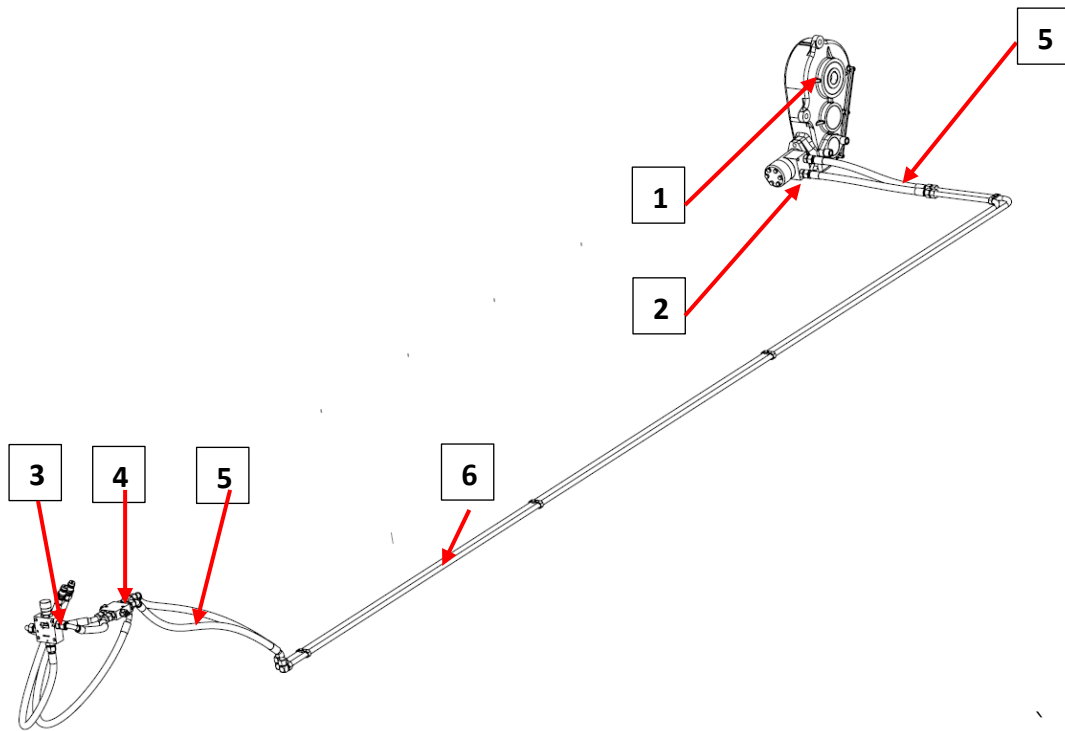

Figure 11. Design of conveyor drive
The conveyor's hydraulic installation (Fig. 11) powers an engine (2) driving a transmission (1) located on the right side of the spreader. This makes it possible to move material inside the box in the direction of the adapter. A regulator with a knob (3) enabling stepless regulation of the conveyor's feed rate is found on the front of the machine. This makes it possible to control the intensity of spreading. Next to the regulator, a cross valve (4) is placed to protect the transmissions from overloading in case of jamming or excessive load. By changing the input of the feed, it is possible to retract material for the purpose of removing jamming of the mechanism.